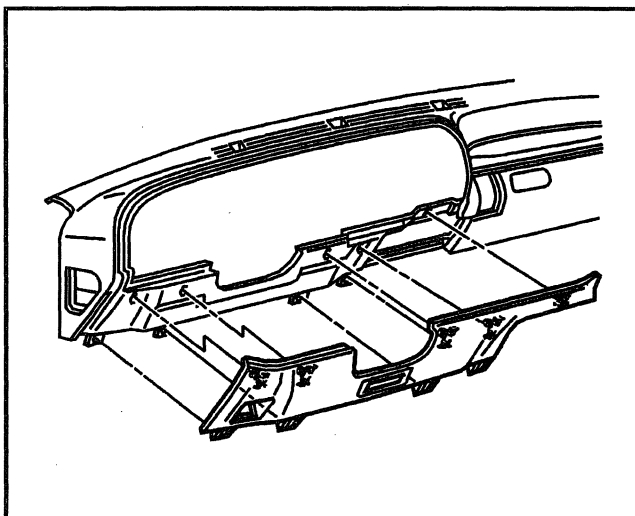

Figure 15—Knee Bolster
9. Four lower bolster screws (Figure 15).